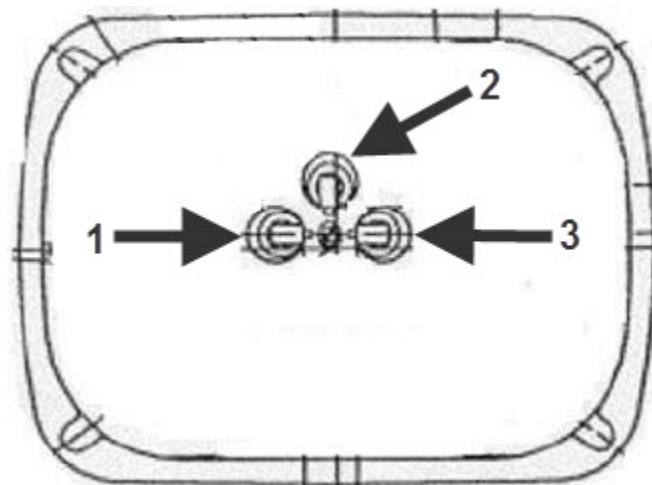

Figure 1 Rectangular Sealed-Beam Headlight (H5054)
5. Remove the electrical connector from the left side headlight. See Figure 1.
10. Remove the electrical connector from the right side headlight. See Figure 1.